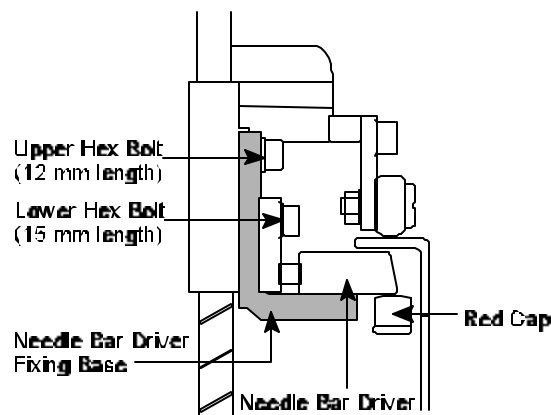

Figure 6
23. **Using** a 3 mm Allen Wrench, **install** Hex Socket Bolt (12 mm in length) into upper hole. (Do not tighten completely). See Figure 6.
24. **Using** a 3 mm Allen Wrench, **install** Hex Socket Bolt (15 mm in length) through Needle Bar Driver Stopper and Needle Bar Driver Stopper Set Collar into lower hole. (Do not tighten completely). See Figure 6 & 7.